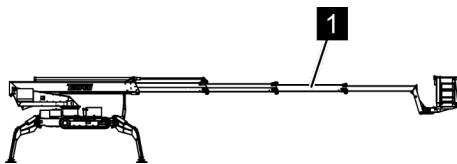

Fig. 137: Extend the telescopic arm
5. ➤ Extend the telescopic arm (Fig. 137/1) completely (↪ Chapter 6.18 'Service operation' on page 125).
7. ➤ Extend the telescopic arm (Fig. 137/1) completely (↪ Chapter 6.18 'Service operation' on page 125).